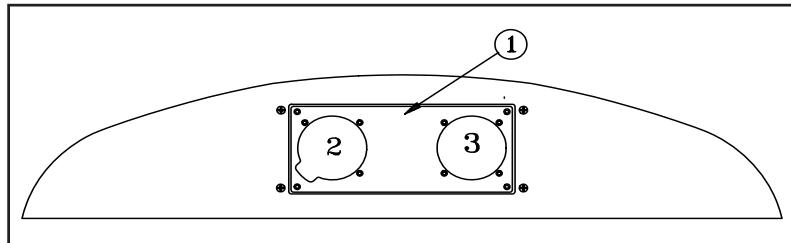

Figure 4 Front Instrument Panel
An altimeter and airspeed indicator (2, 3, Figure 4) are installed on a separate removable instrument panel (1) in the main fuselage cover in front of the front pilot.